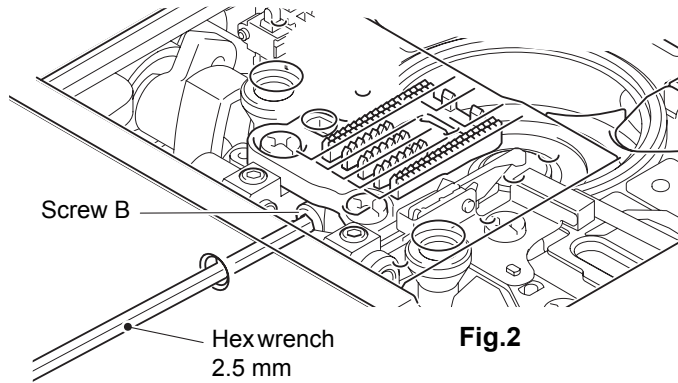

Fig.2
8. Tighten the screw B of the feed dog correction plate to secure the feed dog correction plate to the feed bar assy. (Fig. 2)